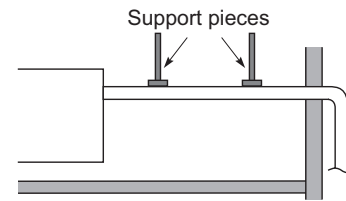

Fig. 2-105-4
- Do not apply force to the piping on the unit side when connecting the drain pipe. The pipe should not be allowed to hang unsupported from its connection to the unit. Fasten the pipe to a wall, frame, or other support as close to the unit as possible. (Fig. 2-105-4)